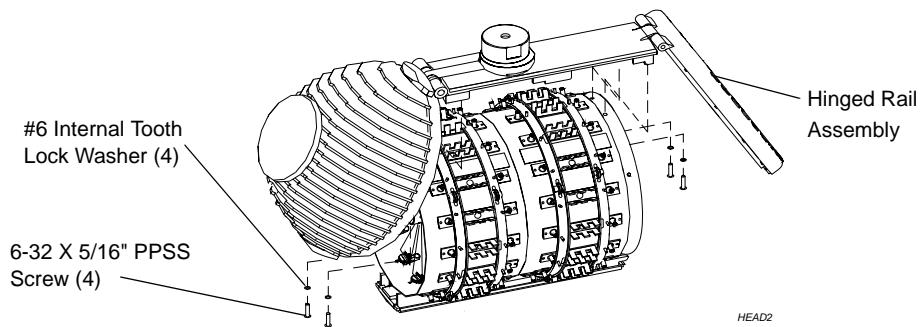

Figure 2-17: Removing Hinged Rail Assembly
- b. Remove hinged rail assembly. Figure 2-17.